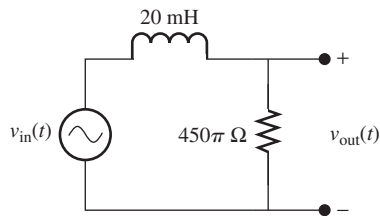

FIGURE P7.12 Circuit for Problem 7.12.
7.12 (A) Find the output, $v_{out}(t)$, of the filter in Figure P7.12, given the input: